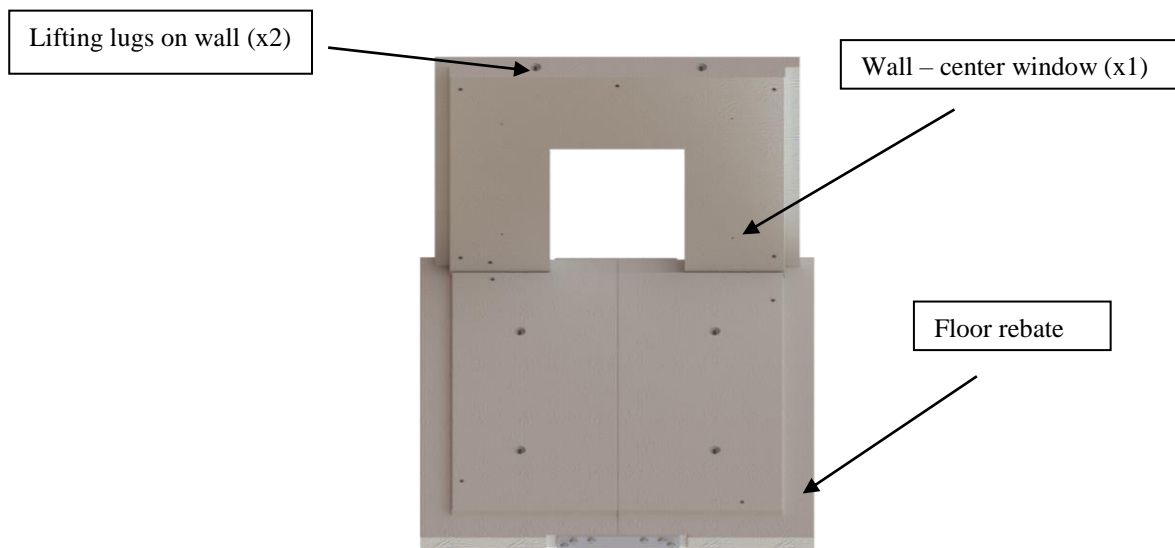

Figure 2
8. Gently lift the Wall to the upright position and lower into the hole ensuring that it lowers onto the floor rebate. See Figure 2